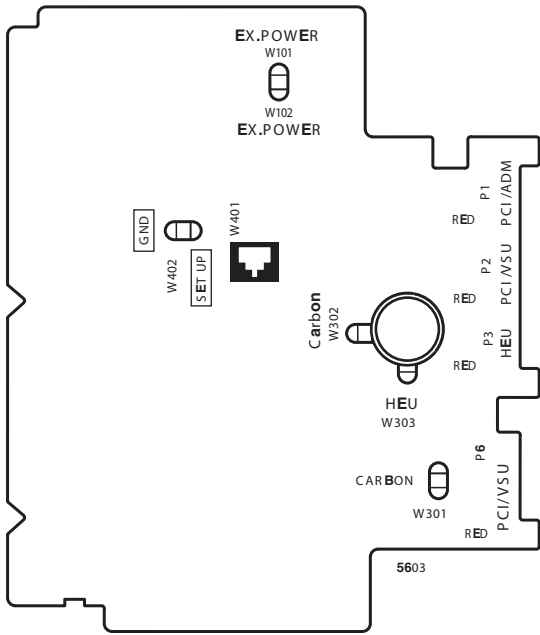

Figure 7-7 DKT3010, DKT3020 Strap and Connector Locations
4. If you do not want the handset receiver to work when the handset is on-hook and a headset (connected to BHEU) is being used, cut the HEU strap on the DKT PCB (see Figures 7-7 and 7-8).
Certain option straps on the DKT3000/3500-series phones must be cut when installing carbon handsets, external power or headsets. Refer to Table 7-5 and Figures 7-7~7-9 for further instruction.